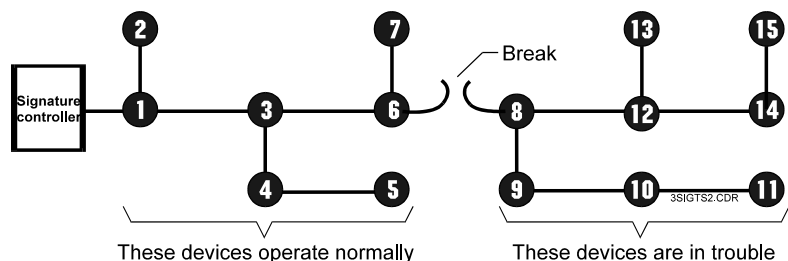

Figure 8-7: Break in circuit between devices 6 and 8
On a circuit with an open fault, the Signature modules will be communicating with devices up to the break. The 3-LCD(XL) Display module will indicate a trouble condition on all devices beyond the break. This is illustrated in Figure 8-7 where devices 1 through 7 continue to operate while devices 8 through 15 report device troubles.
Referring again to Figure 8-7, a wire break or intermittent connection between devices 6 and 8 is the most probable cause of the failure. Other possible but unlikely causes with the same